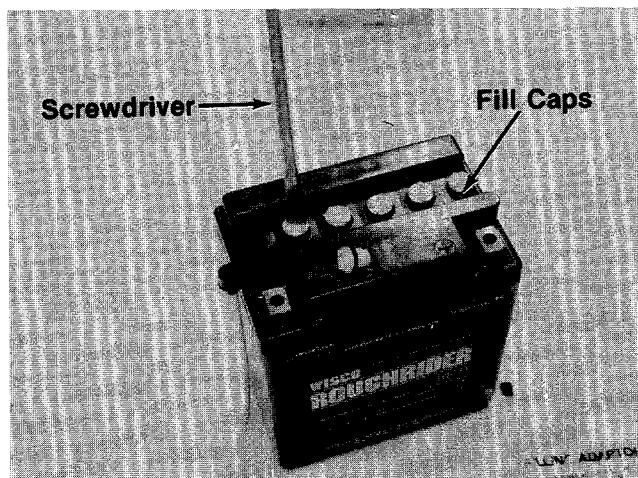

FIGURE 10.
4. Remove the six fill caps from the top of the battery with a screwdriver. Care should be taken not to damage the fill caps. See figure 10.